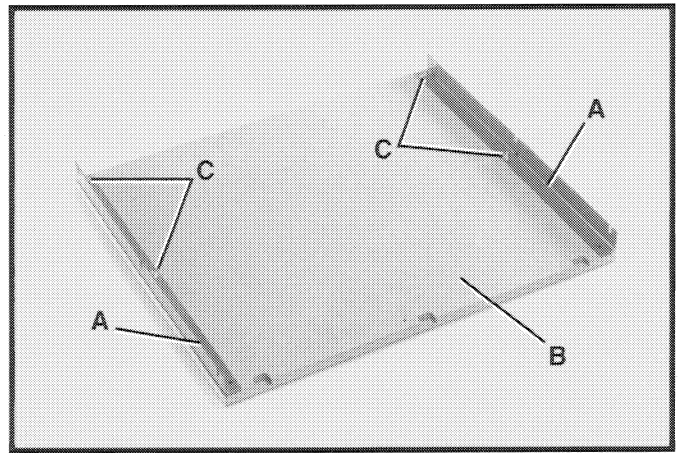

Fig. 28
1. Fasten the two table supports (A) Fig. 28, to the bottom of the table board (B), as shown, using four 3/4" long hex washer head screws (C).